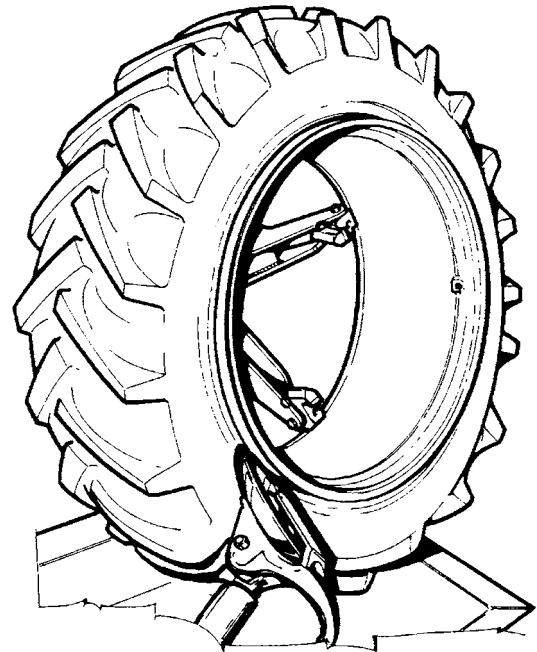

Fig.43
3. Loosen the outer bead in the same way, taking care not to damage the valve stem (fig.43).